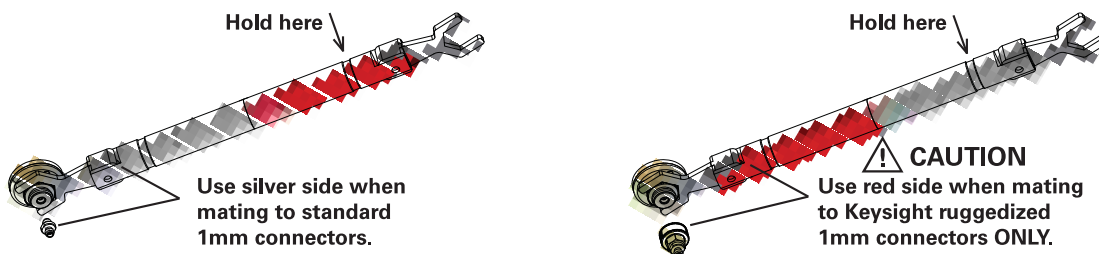

Figure 4 Applying torque
- 1 Hold the handle at the double line as shown in **Figure 4** to apply torque. If you hold the handle closer toward the head, you will apply more torque than what the wrench is set for. The wrench is a length-dependent tool.